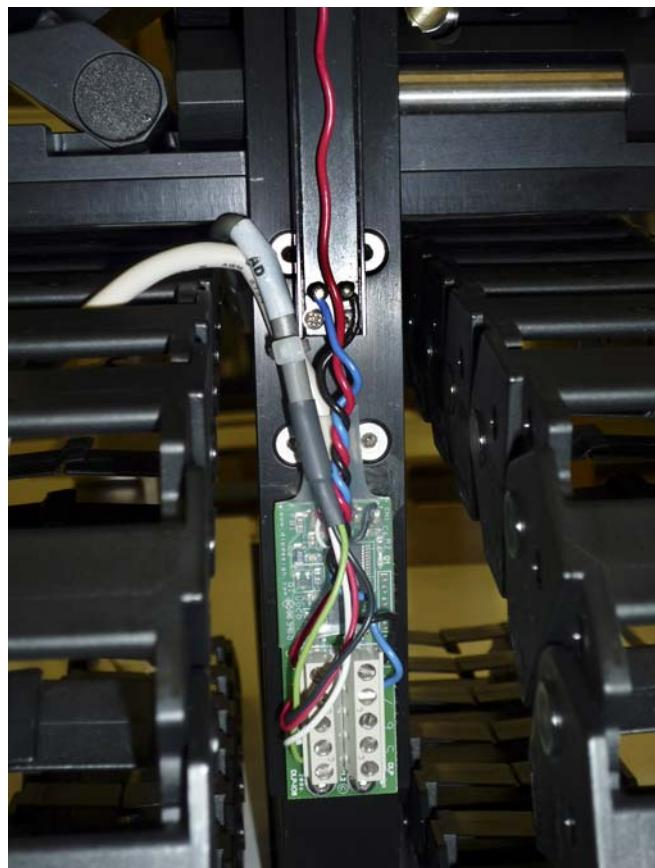

Figure 5-23
1. Remove two (2) M3 cap screws (2390622, Item 15) and washers (Item 13) from Potentiometer Cover (5215053, Item 9) and set aside Cover and hardware.
2. See Figure 5-23. Remove red, blue and black wires from terminal block by loosening appropriate screws.